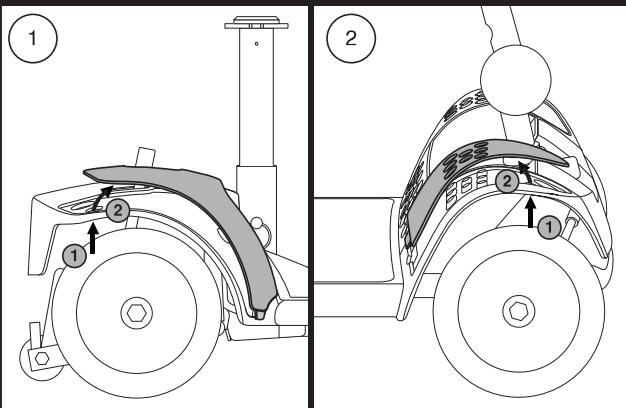

Figure 15. Fender Panels
2. Push through the hole to separate the piece from the Travel Scooter. See **figure 15**.
NOTE: When installing the front and rear fender panels, make sure the tab at the bottom of each panel is inserted into the tab opening before securing the panel. See figure 15.